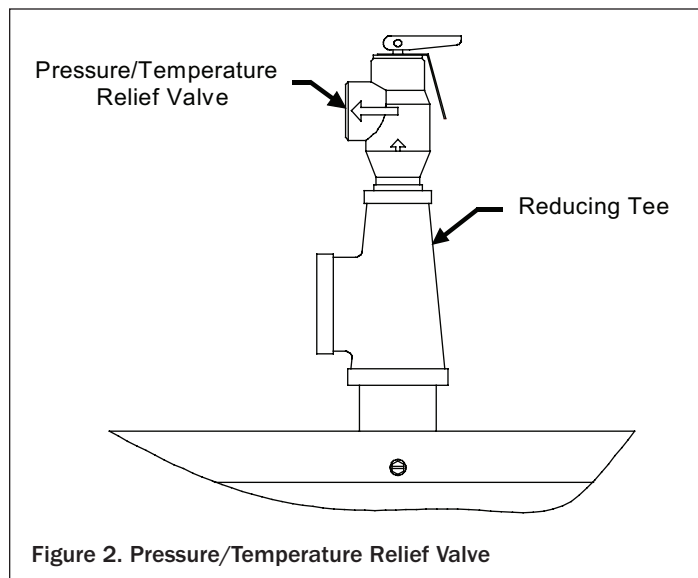

Figure 2. Pressure/Temperature Relief Valve
3. The hot water outlet is at the top of the tank. A reducing tee and a combination pressure/temperature relief valve are furnished with the Therma-Stor III. These must be installed so the sensing element of the pressure/temperature valve extends inside the tank and the hot water discharge is horizontal, as shown in Figure 2. Connect the outlet of the relief valve to a suitable open drain. The drain pipe must pitch downward from the valve and must be no smaller than the size of the outlet of the valve. The end of the drain line should be close to the floor with a 6" air gap. It must not be